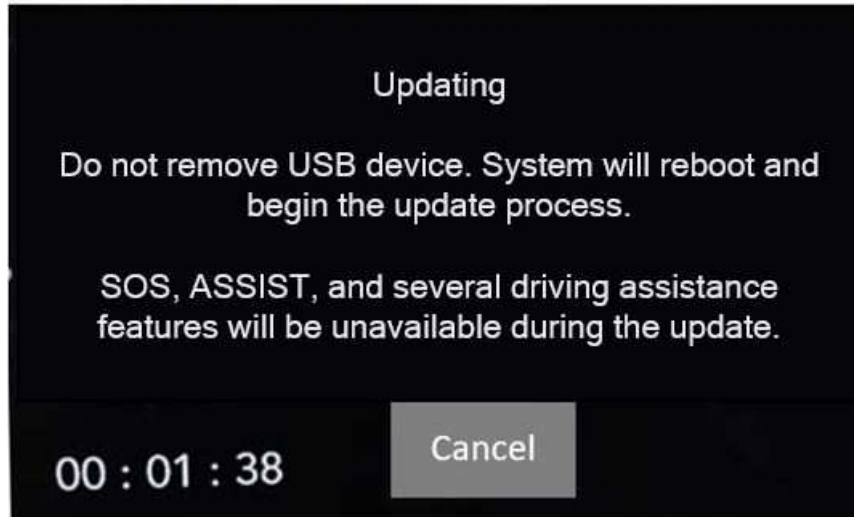

Fig. 8
**NOTE: If the ignition is turned off before the two minutes has expired, the software update will be canceled (Fig. 8)**
14. When the radio starts updating, the screen in (Fig. 8) will be displayed.